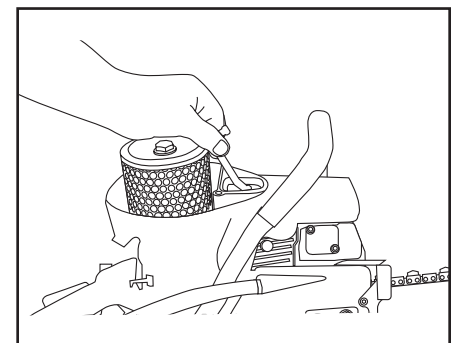

Figure 2
- Remove the spark plug and insert the piston stop (supplied with each saw) into the spark plug hole. Pull the starter cord slowly until the piston stops. (Figure 2) Use a 19mm wrench to turn the clutch clockwise and remove.